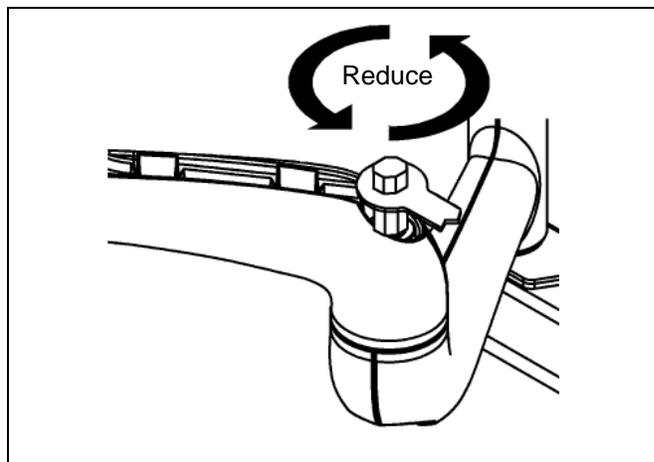
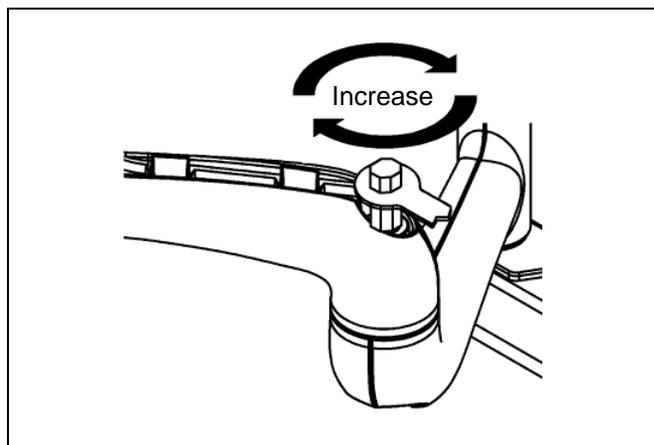

Figure 20: Reduce Swing Arm Tension
Figure 21: Increase Swing Arm Tension
3. Using the wrench provided with the mount, turn adjustment bar clockwise to increase swing arm tension or counterclockwise to reduce swing arm tension. (see figure 20) and (see figure 21)